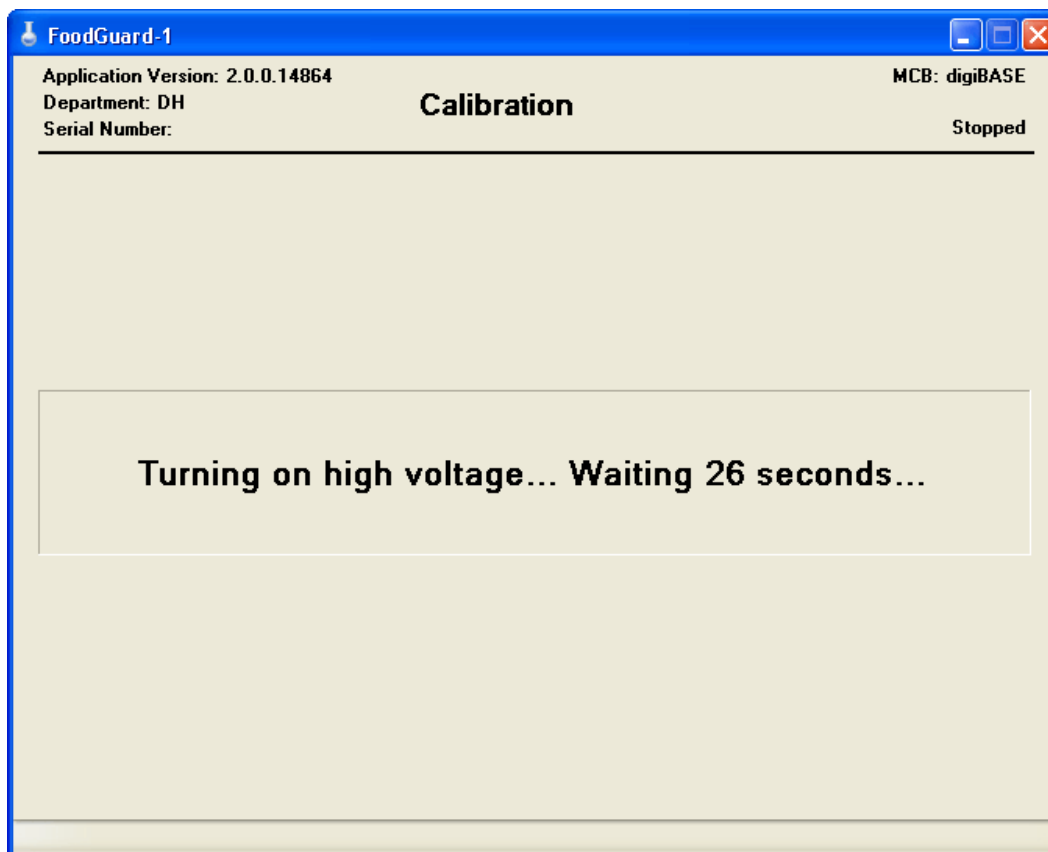

Figure 16. Detector High Voltage Startup Screen.
- If the high voltage is off, the high voltage startup screen is displayed first (Fig. 16). This gives the detector high voltage 30 seconds to turn on and stabilize, after which the Run tab is displayed.